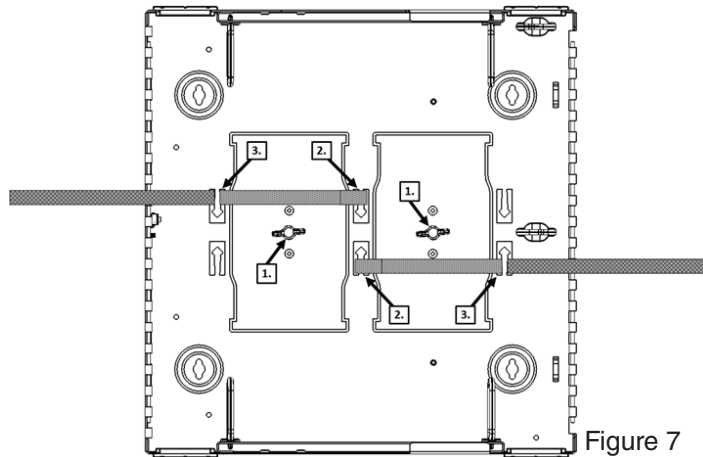

Figure 7
2. Insert VELCRO strip under the first arrow lance point with the hook side facing up (Figure 7).